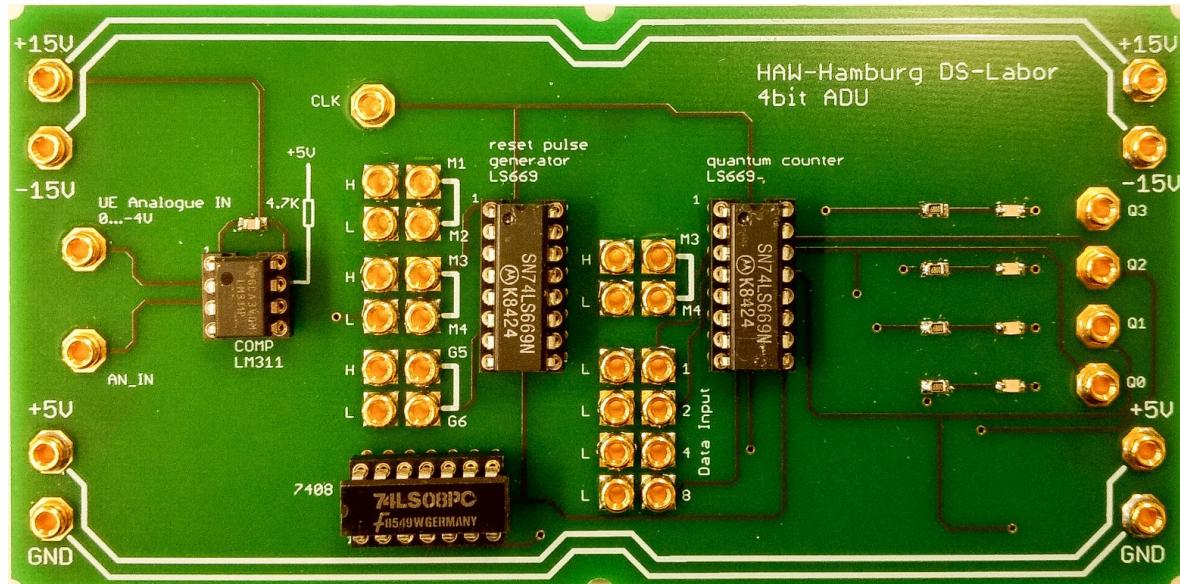

Figure 5: ADC Circuit [1]
- Now add a binary counter to the circuit so that the input signal counts up automatically. The IC 74HCT93 should be used for this. A clock signal from the frequency generator is used as the input signal. This IC is also available on a separate printed circuit board. The board is shown in figure 5. Measure the output signal V_{OUT} and explain the term "quantization error" with the help of the output signal. Find the quantization error of your circuit.